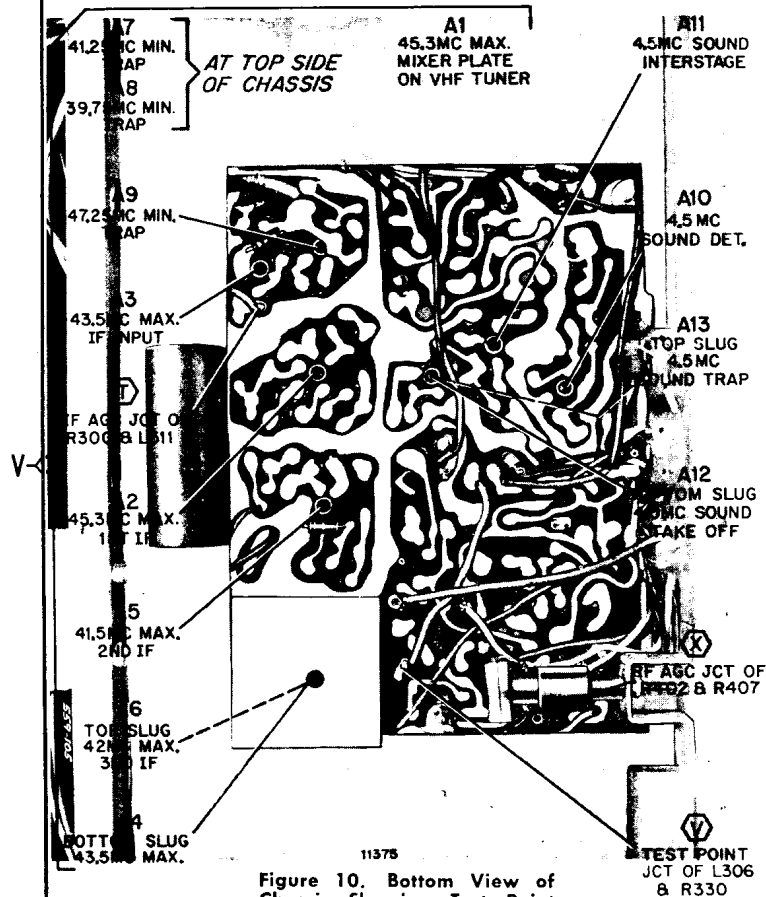

Figure 10. Bottom View of Chassis Showing Test Point Locations and IF Alignment Data. VHF Tuner at Top of Illustration.
- Connect negative of 3.0 volt bias supply through 10K resistor to test point "T" (IF AGC), see figures 10 and 11, positive to chassis.
2. Select the strongest TV station received. AGC control must be in proper adjustment, see procedure on page 6. Adjust other controls for normal operation. Turn Super Range Finder Control fully to the left (counterclockwise). See figures 10 and 11 for adjustment locations.